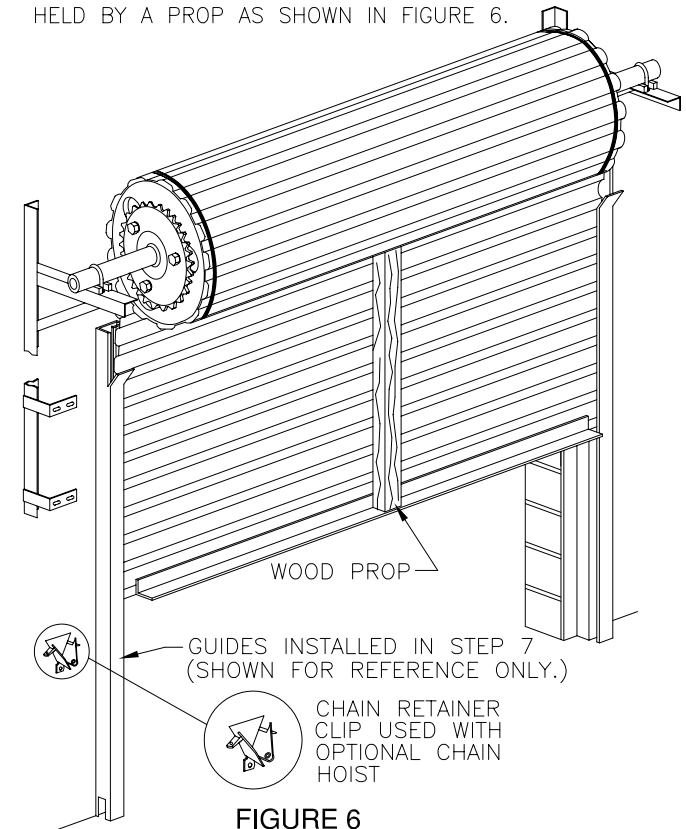
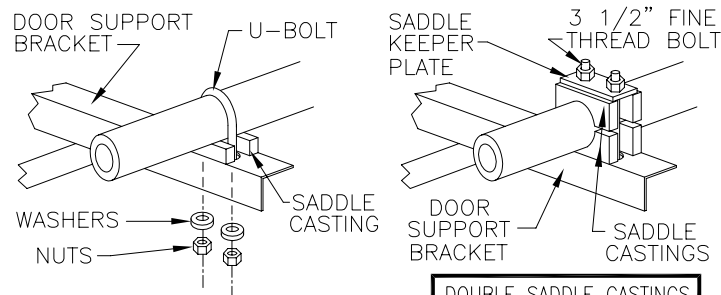

FIGURE 6
FIGURE 4
- 4A PLACE SADDLE CASTING ON DOOR SUPPORT BRACKET. LAY AXLE IN SADDLE CASTING AND PLACE U-BOLT OVER AXLE AND THROUGH SADDLE CASTING AND BRACKET AS SHOWN IN FIGURE 4.
- 4B INSTALL PLATE, WASHER AND NUTS AS SHOWN IN FIGURE 4 AND TAKE VERY GREAT CARE TO TIGHTEN BOTH NUTS VERY TIGHTLY TO A TORQUE OF 40 FOOT POUNDS. (THIS IS A 40 POUND PULL AT THE END OF A 12" WRENCH.)
- 4C ATTACH CHAIN HOIST (IF SUPPLIED) TO DOOR SUPPORT BRACKET USING (4) - 3/8" DIAMETER HEX HEAD BOLTS. POSITION ROLLER CHAIN ON PERIMETER OF BOTH SPROCKETS. ADJUST HEIGHT OF HOIST BRACKET SO CHAIN IS TAUNT (NO SLACK) AND TIGHTEN THE MOUNTING BOLTS. NOW INSTALL THE HAND CHAIN ON THE CHAIN WHEEL.
- 6A CUT THE BANDS THAT HOLD CURTAIN, THEN LOWER THE DOOR NO FURTHER THAN HALF WAY (SEE FIGURE 6). ON THE BOTTOM OF THE DOOR (DO NOT LET GO OF DOOR).
- 6B THE DOOR MAY HAVE A STRONG TENDENCY TO RAISE AND CAUSE DAMAGE. THEREFORE, IT MUST BE SECURELY HELD FROM TURNING UNTIL GUIDES AND HEAD STOPS ARE INSTALLED. THE DOOR MAY BE HELD BY A PROP AS SHOWN IN FIGURE 6.